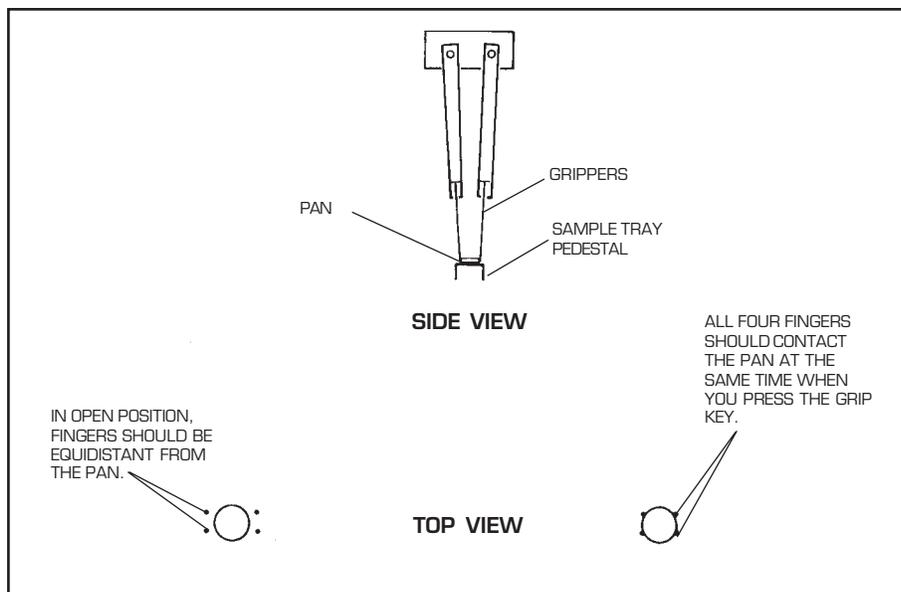

Figure 4.4
4. Use the motion keys to position the grippers over the pan in tray position #1. Press the **GRIP** and **RELEASE** keys to ensure that the fingers can firmly grasp the pan, and watch carefully to ensure that each finger contacts the pan at the same time (see Figure 4.4).
11. When the turret stops moving, close and open the grippers again and check your calibration against the criteria in Figure 4.4. Remember to release the pan. If the position is correctly calibrated, go on to step 12. If it is not, repeat steps 4 through 11 for tray position 1.